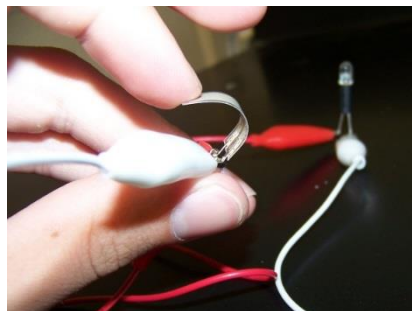

Figure 4. Bending the polymer film
5. Bend the polymer film back and forth slowly (Figure 4). Increase the speed at which you are bending the material until the LED lights up with each bending motion.